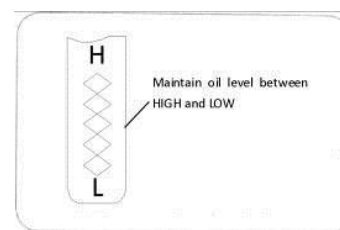

Figure 29
4. Unscrew and remove oil fill cap from oil filler tube. Note oil level. If oil reading on dipstick is below "**LOW**" mark, slowly add oil to reach "HIGH" level. See Figure 29.